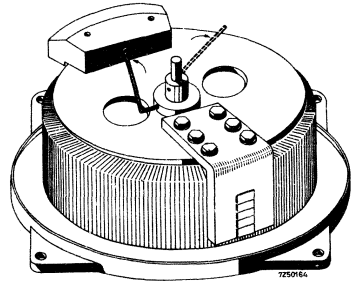
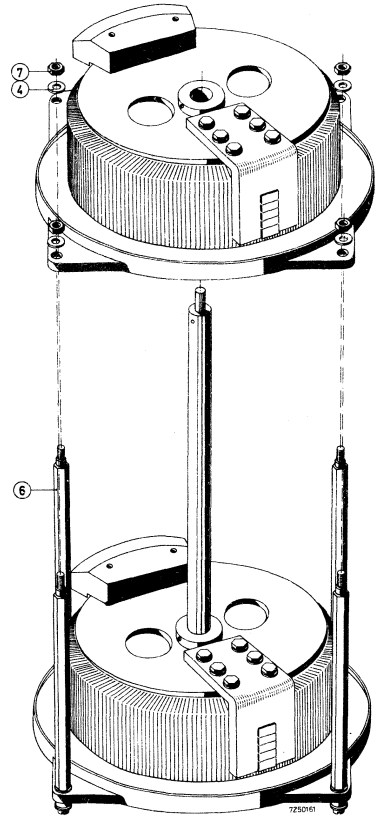

Fig. 2
Fig. 4
4. Mount the second transformer on spindle and distance rods according to Fig. 4. Place the brush holders of the two transformers in the same final position and secure the spindle in the second transformer according to Fig. 2.
6. Mount the third transformer on spindle and distance rods according to Fig. 4. Place the brush holder in the same final position as those of the first and second transformers and secure spindle in the third transformer as shown in Fig. 2.